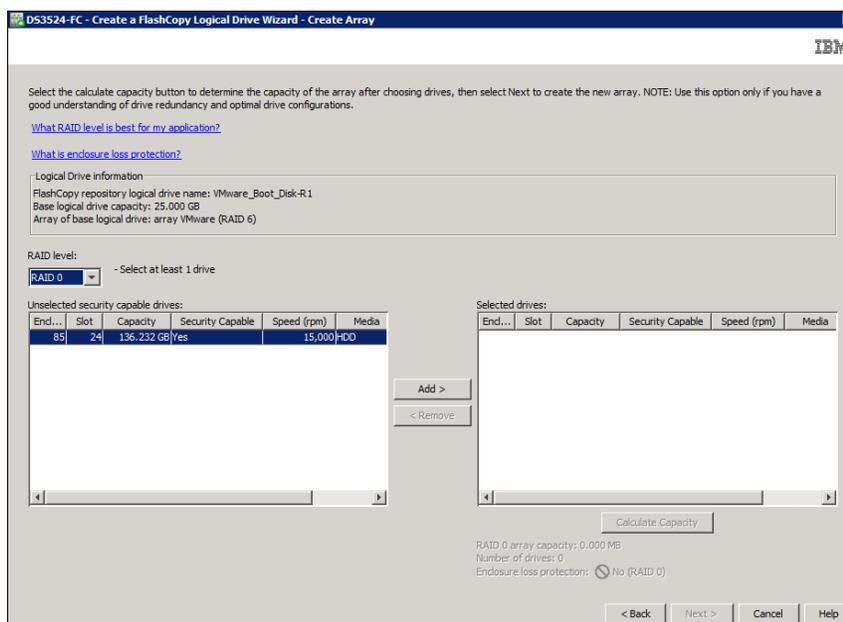

Figure 2-19 Create FlashCopy Logical Drive: Specify array parameters
- iii. Click **Next**. The Create Array window (Figure 2-19) is displayed.